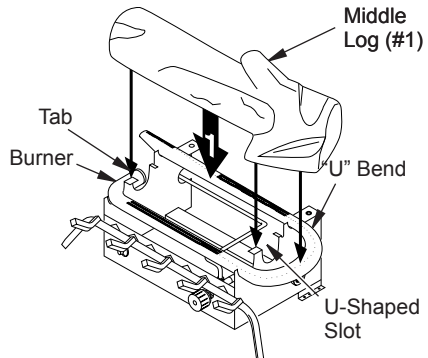

Figure 25 - Installing Middle Log (#1)
1. Place the base of the middle log (#1) in the U-shaped slots of the grate base. The cutout on the right of the middle log should fit over the burner (see Figure 25). Make sure the front of the middle log is resting on the tabs of the grate base and the cutout area is centered over the burner "U" bend.